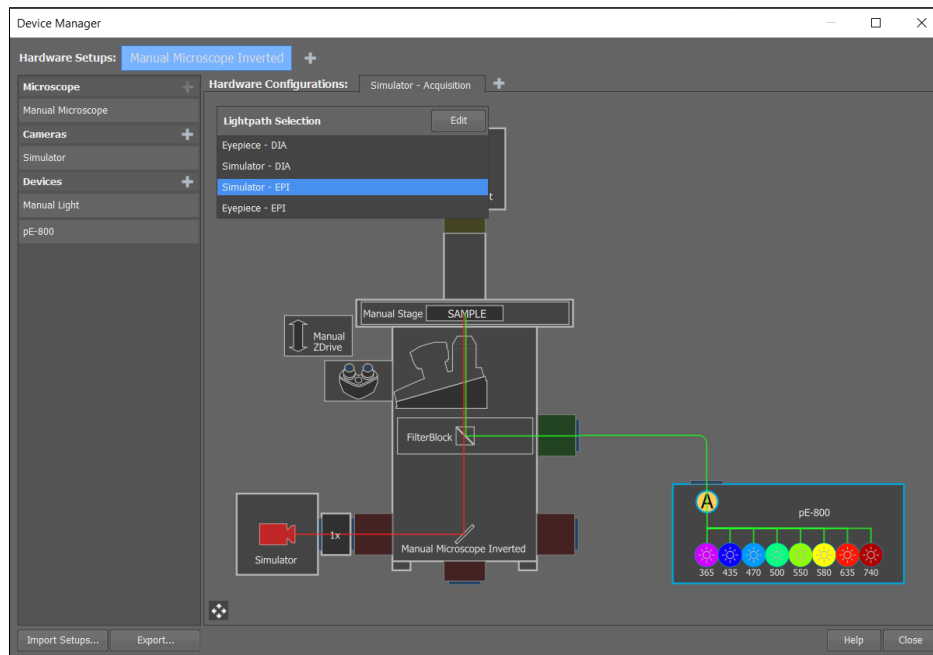

Figure 7: Device Manager shows pE-800 connected to the setup. Multiple hardware setups can be added (red box).
- Click 'Connect' to return to 'Device Manager', where the CoolLED Illumination System now appears in the graphical representation of your setup (Figure 7). In this example, the camera simulator is selected with epifluorescence illumination ('Simulator-EPI').